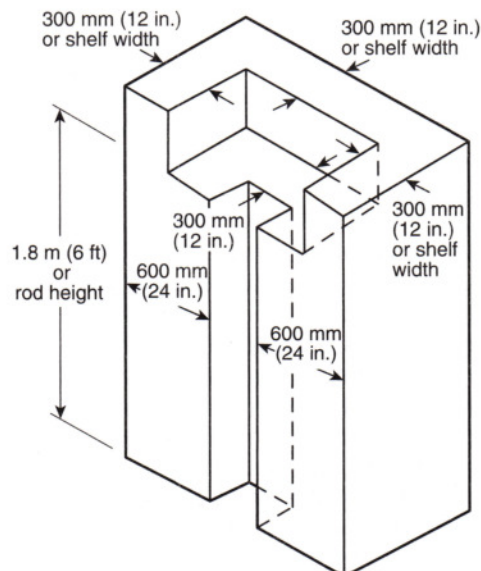

FIGURE 410.16(A) Clothes Closet Storage Space.
(A) Clothes Closet Storage Space. The clothes closet storage space shall be the volume bounded by the sides and back closet walls and planes extending from the closet floor vertically to a height of 1.8 m (6 ft) or to the highest clothes-hanging rod and parallel to the walls at a horizontal distance of 600 mm (24 in.) from the sides and back of the closet walls, respectively. The volume extends vertically to the closet ceiling parallel to the walls at a horizontal distance of 300 mm (12 in.) or the width of the shelf, whichever is greater. For a closet that permits access to both sides of a hanging rod, the clothes closet storage space includes the volume below the highest rod extending 300 mm (12 in.) on either side of the rod on a plane horizontal to the floor extending the entire length of the rod. See Figure 410.16(A).